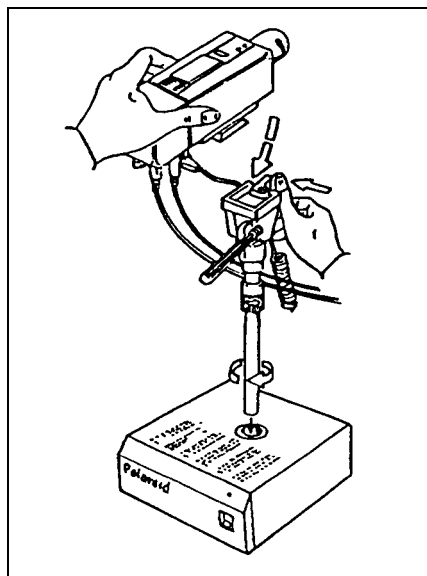

Figure 2-26. Camera Mounting Pole
7. Screw camera mounting pole into input unit base (Figure 2-26).
8. Attach the camera to the mounting bracket by opening the latch and angling it into place (Figure 2-26).